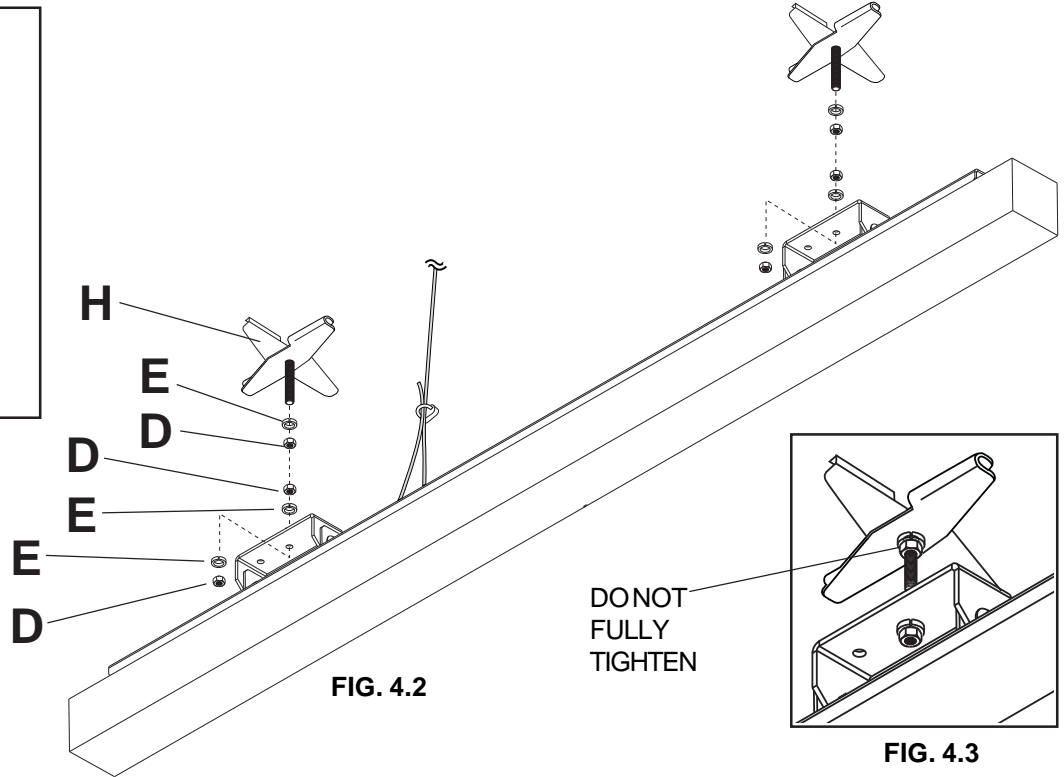
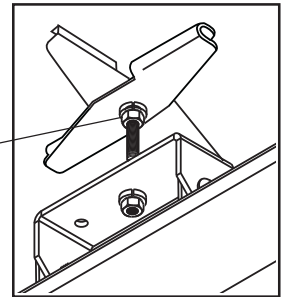

FIG. 4.2
FIG. 4.3
Attach two scissor clips (H) to bracket assembly (A) using six split washers (E) and six hex nuts (D) as shown in figure 4.2. Do not fully tighten hex nut against scissor clip to allow scissor clip to close as shown in figure 4.3.